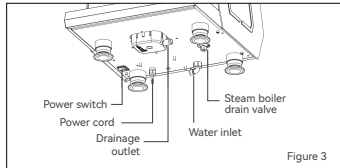

Figure 3
3. At the bottom of the coffee machine, you can see the power cord, water inlet, and drainage outlet (Figure 3);
2. Turn on the power switch at the bottom of the machine (Figure 3);
2. Draining the Steam Boiler: After turning off the power switch, allow the machine to cool down for 2 hours in general, then proceed to drain the steam boiler. Open the drain valve located at the bottom of the machine (see Figure 3) to drain the water from the steam boiler. Close the drain valve after draining the water completely;